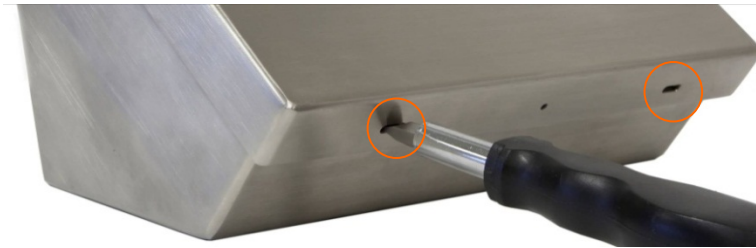
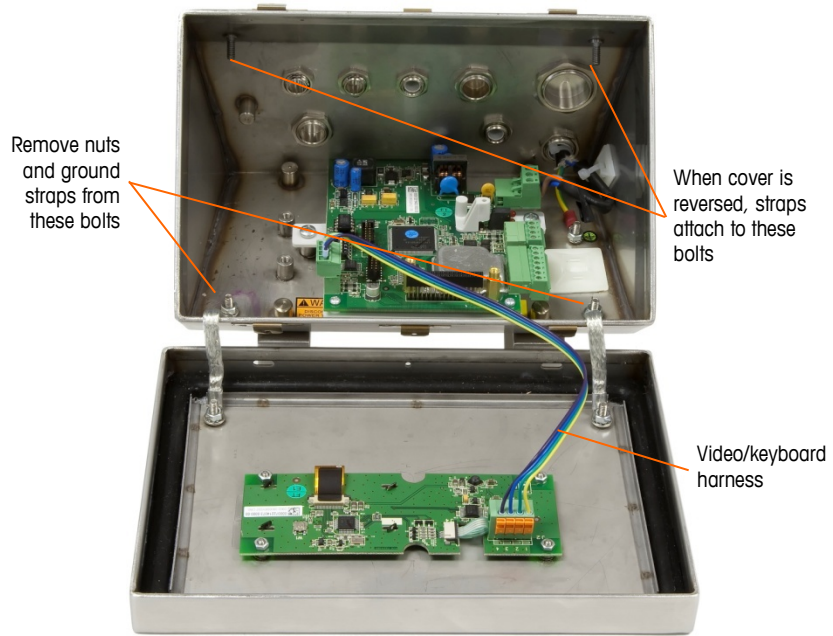

Figure 2-4: Opening the IND331 Harsh Enclosure
Figure 2-21: Loosening the Ground Straps
To open the harsh enclosure, use a flat blade screwdriver. Push the blade into each of the two slots in the cover (indicated in Figure 2-4) to compress the spring clip until the cover pops up. When both corners are free, press the cover upward until it clears the front edge of the housing. Then, press it backward until it unlatches the two remaining spring clips. Lift it carefully off the enclosure and swing it forward. The cover is attached to the enclosure by two strain relief/grounding cables, and is connected to the main board by the video/keyboard harness (see Figure 2-21).
- B. Loosen and remove the two nuts securing the two grounding straps (that also operate as hinges for the front cover) to the rear housing. See Figure 2-21.